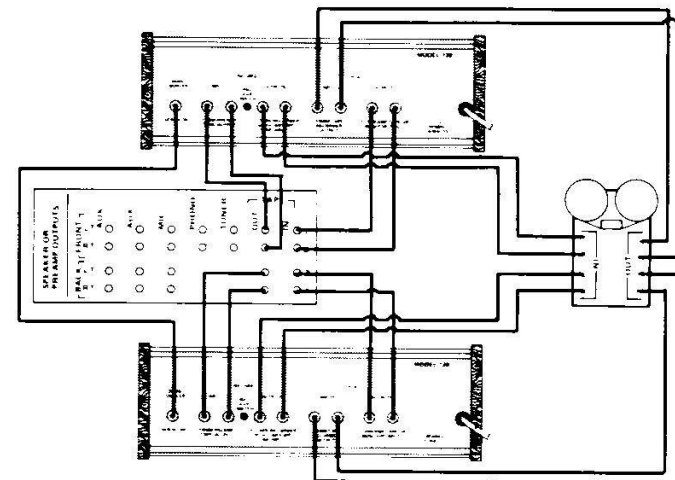

Fig. 13 – 4 Channel Operation with Two dbx 128's
2. Connect the QUAD CONNECTORS of the two units together with a spare patch cable, as per in Figure 13.